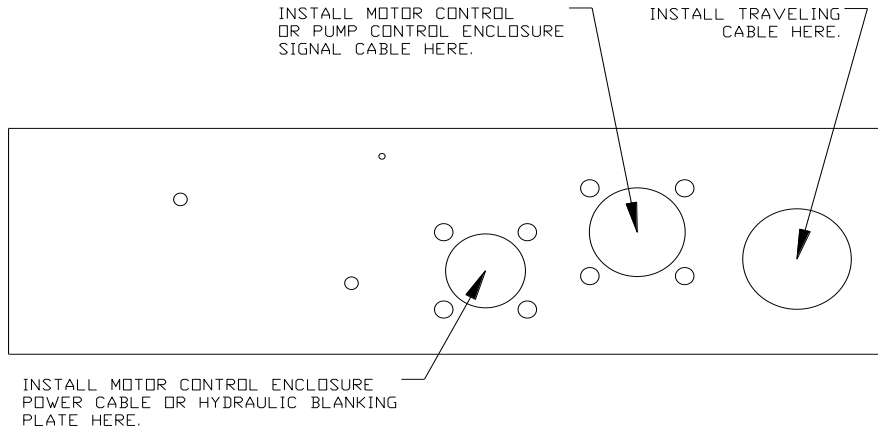

Figure 8 - CPU CONTROL ENCLOSURE, BOTTOM VIEW
4. Remove the blanking plate from the Pump Control Enclosure Power Cable Assembly (27310811) and attach as shown in Figure 8 using four (4) 8-32x 3/8" machine screws
1. Identify the end of the Traveling Cable that has the much longer length of the outer cable jacket removed. Using the identified end of the cable, remove the nut from cable clamp and then install cable through indicated opening as shown in Figure 8.
1. Identify the end of the Motor Control Signal Cable Assembly (21307533) with the longest length of wiring outside of the conduit. Using the identified end of the cable, install cable through indicated opening as shown in Figure 8 using four (4) 8-32x 3/8" machine screws.
4. Identify the end of the Motor Control Enclosure Power Cable Assembly (21307648) with approximately 35" of wiring outside of the conduit. Using the identified end of the cable, install cable through indicated opening as shown in Figure 8 using four (4) 8-32x 3/8" machine screws.
1. Identify the end of the Pump Control Signal Cable Assembly (27310695) with the longest length of wiring outside of the conduit. Using the identified end of the cable, install cable through indicated opening as shown in Figure 8 using four (4) 8-32x 3/8" machine screws.